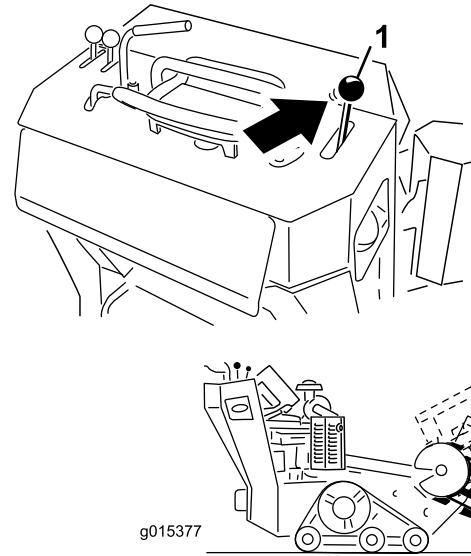

Figure 20
2. Lower the boom (Figure 20).